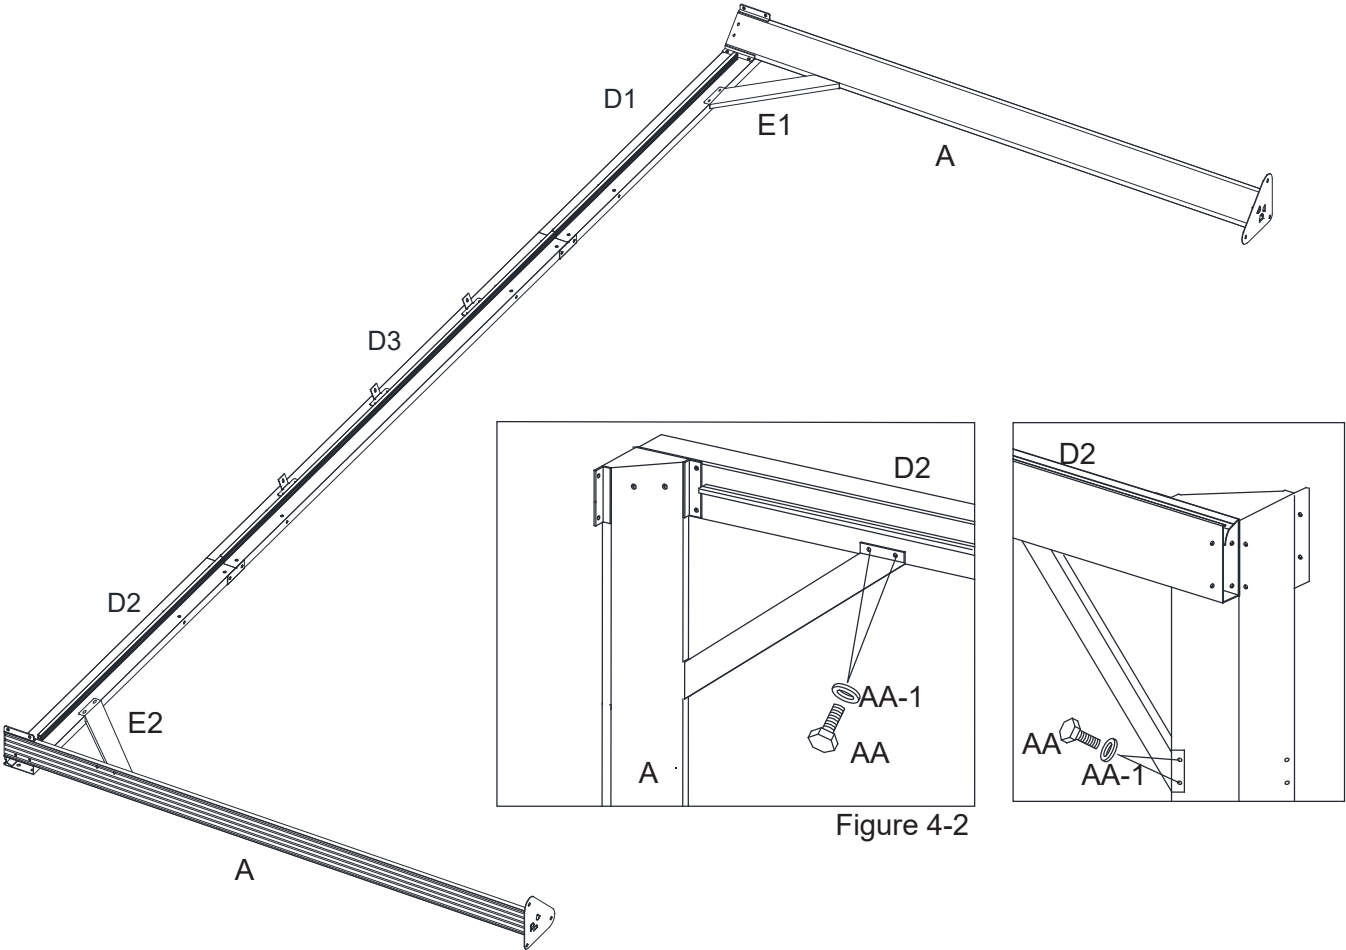

Figure 4-2
4.2. Attach Support Bars (E1/E2) to Corner Post (A) and to Lintels (D1/D2) with Bolts (AA) and Steel washer (AA-1). See Figure 4-2.